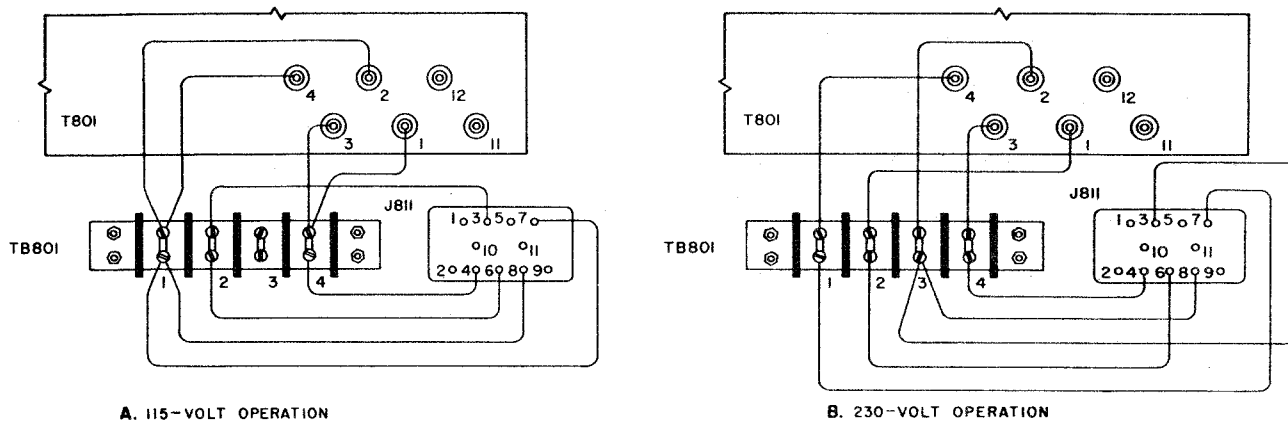

Figure 8-3. Connections for 115-Volt or 230-Volt Operation
1. ALL COAXIAL PLUGS AND CABLES FURNISHED BY INSTALLATION ACTIVITY. REFER TO FIGURE 8-3 FOR PLUG AND CABLE TYPES.
3. If the pilot lamps light at full brilliance and the receiver is to be used on 230 volts, disconnect the receiver and remove the power supply subchassis from it (paragraph 6.3.13.1). Connect T801 for 230-volt operation (figure 8-3).
8.6.1 When it has been determined that the receiver is connected to the correct power source (paragraph 8.4.1) and that all external connections have been made correctly (figure 8-3), refer to paragraph 2.4 for initial turn-on and installation verification.